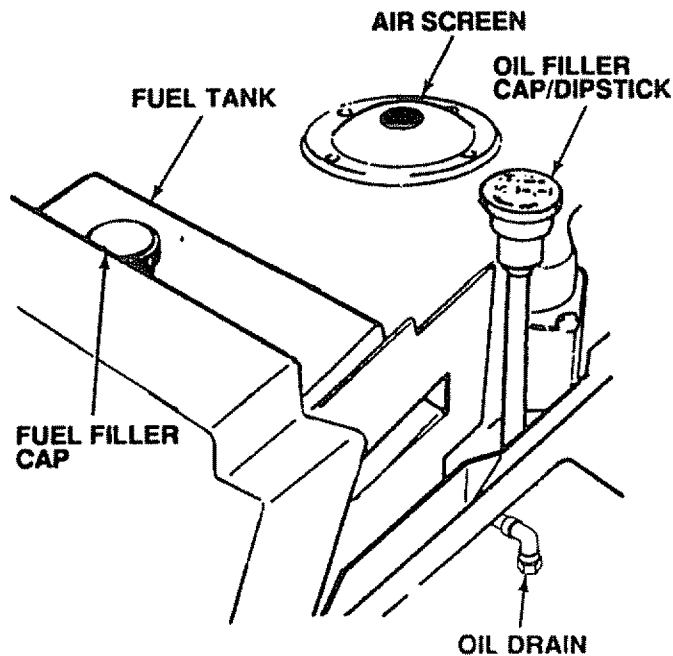

FIGURE 6
- Fill fuel tank (Fig. 6). Use fresh, clean, regular unleaded gasoline. Capacity is 5 quarts (4.73 litres).